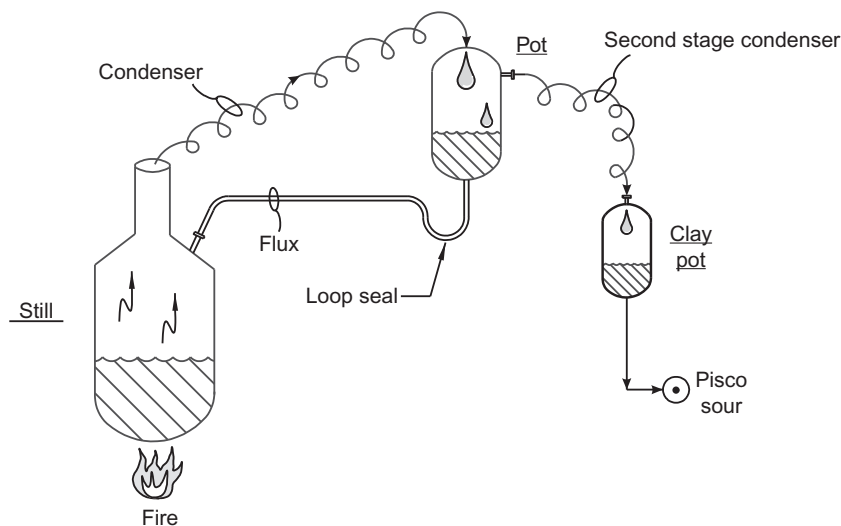

FIG. 3.3 Two-stage distillation apparatus increases purity without reduction in product yield.
- *Step Two*—The first half, I'll use to connect the Still to the vertical pot (Fig. 3.3)
- *Step Four*—The liquid, which condenses (called "FLUX"), that accumulates in the vertical pot, I'll use a rubber hose with a 2 ft long loop, to continuously drain back into the Still (see Fig. 3.3).